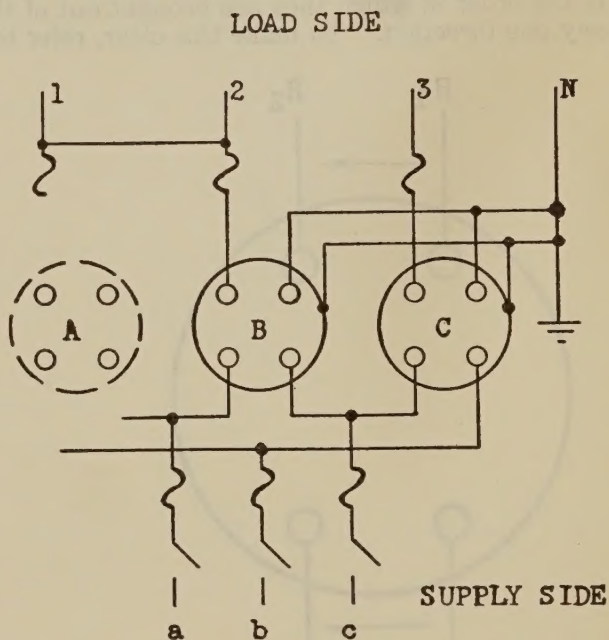

Figure 3.—After failure.
7. If consumer has a V-bank (see fig. 6), make certain that the two primary phase wires are not connected in parallel at any point for emergency operation (see fig. 3).